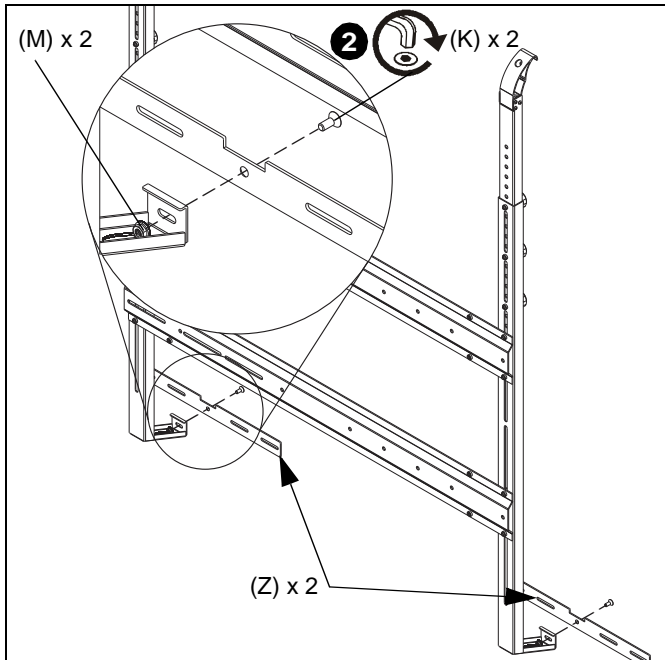

Figure 6
- Attach one lower wall bracket (Z) to each of the leg assemblies using one 1/4-20 x 1/2" flat head cap screw (K) and one 1/4-20" hex nut (M) on each lower wall bracket. (See Figure 6)